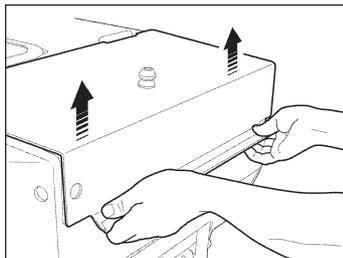

Fig. OZ4 Opening the cockpit cover
- ➔ Pull the cockpit cover slightly backwards and upwards (Fig. OZ4).